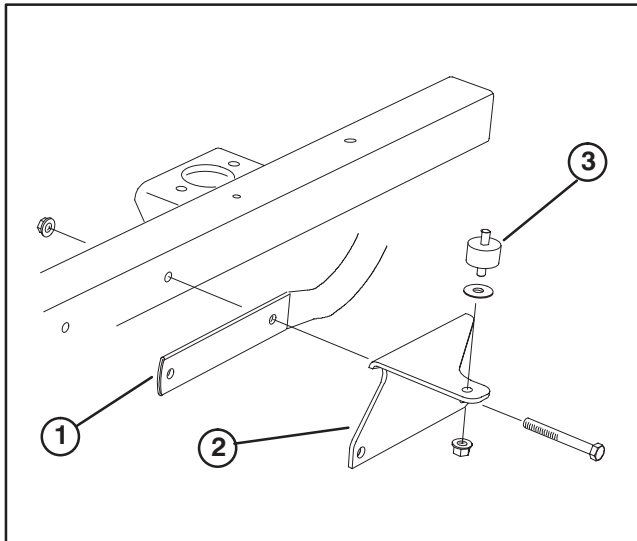

Figure 6
7. Remove fasteners securing air cleaner bracket to frame and re-mount front bracket to outside of air cleaner bracket and to frame with fasteners removed (Fig. 6).
8. Secure rubber mount to top of front bracket with flangenut and flatwasher provided with mount (Fig. 6). Flatwasher to be positioned between mount and bracket.